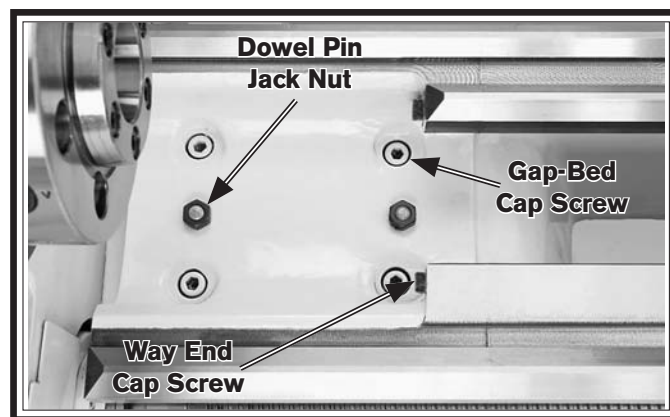

Figure 136. Fasteners holding gap in place.
1. Remove the four gap-bed cap screws, shown in **Figure 136**.